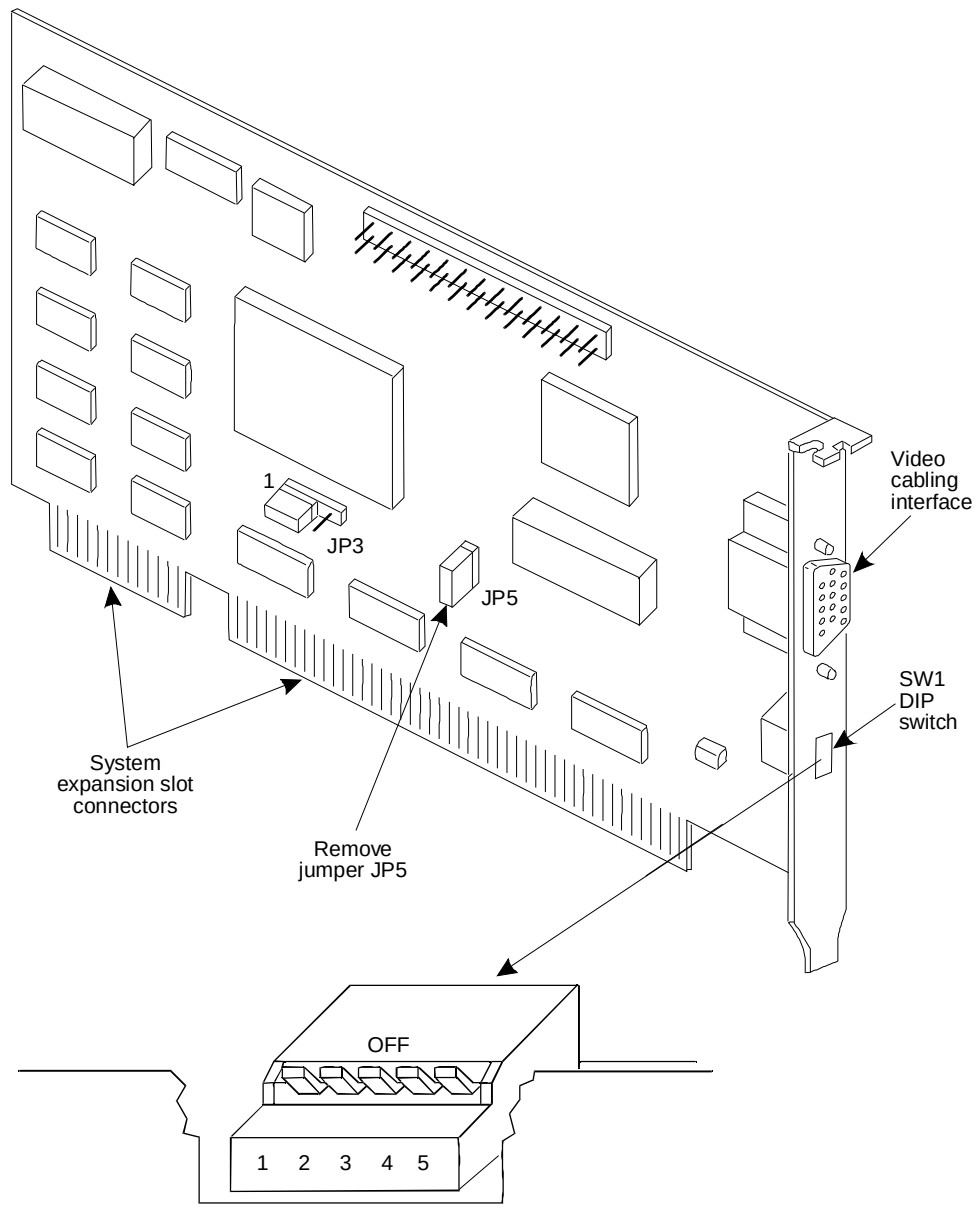

Figure 5-88. WDXLR831124 Video Controller Circuit Card and Switch Settings
- WDXLR831124 (Figure 5-88)
Figure 5-88 shows the WDXLR831124 video controller circuit card.
These switches control the monitor's mode and vertical and horizontal retrace/scan rate. See Figure 5-88 for the location of the switch on the video controller card.
Switch position 2 controls the horizontal retrace rate. This switch may be set to on or off on your current video card. For new video cards being installed, set this switch according to Figure 5-88.
Jumper JP3 – Address Latch Enable: The manufacture sets this jumper. Install the jumper block on pins 1 and 2 of JP3. Note that pin 1 is on the left side of the jumper (see Figure 5-88 for proper orientation).